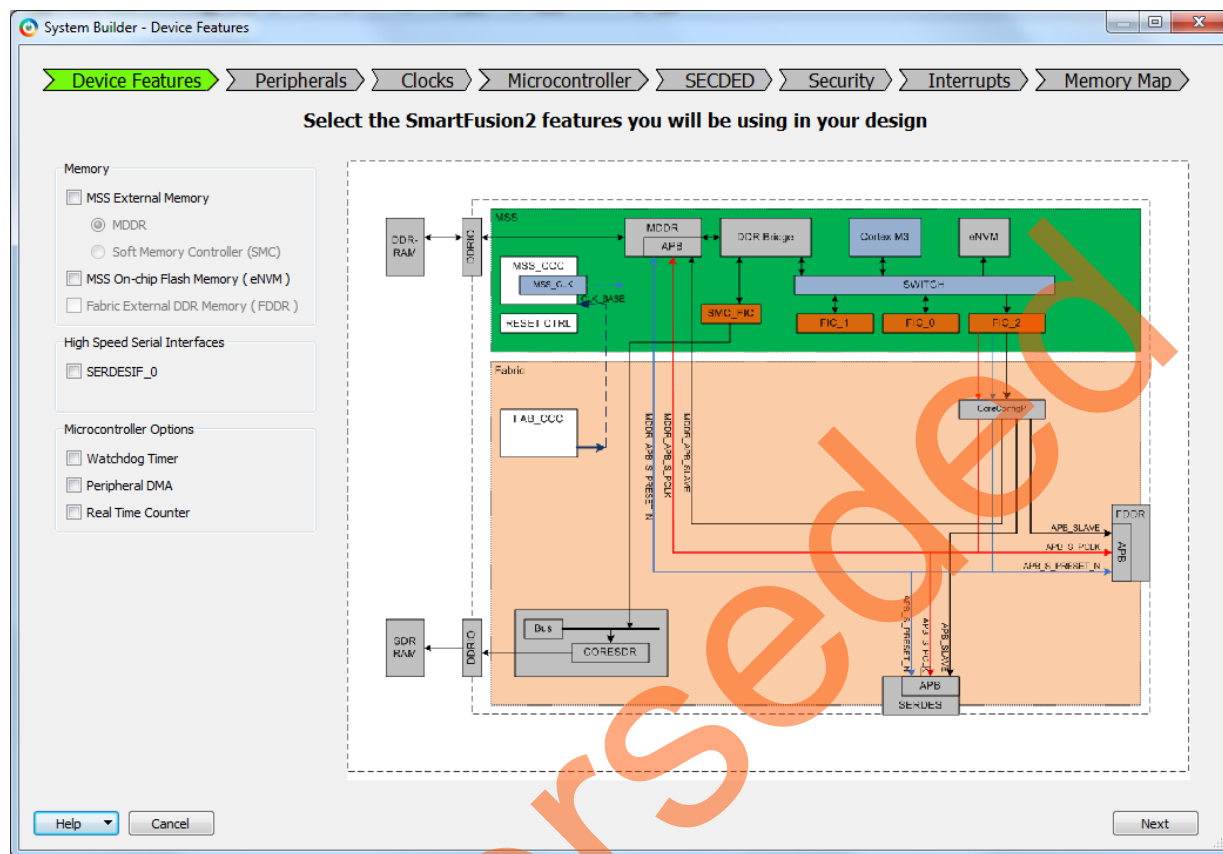

Figure 7 • System Builder – Device Features Page
9. **System Builder – Device Features** page is displayed, as shown in Figure 7.